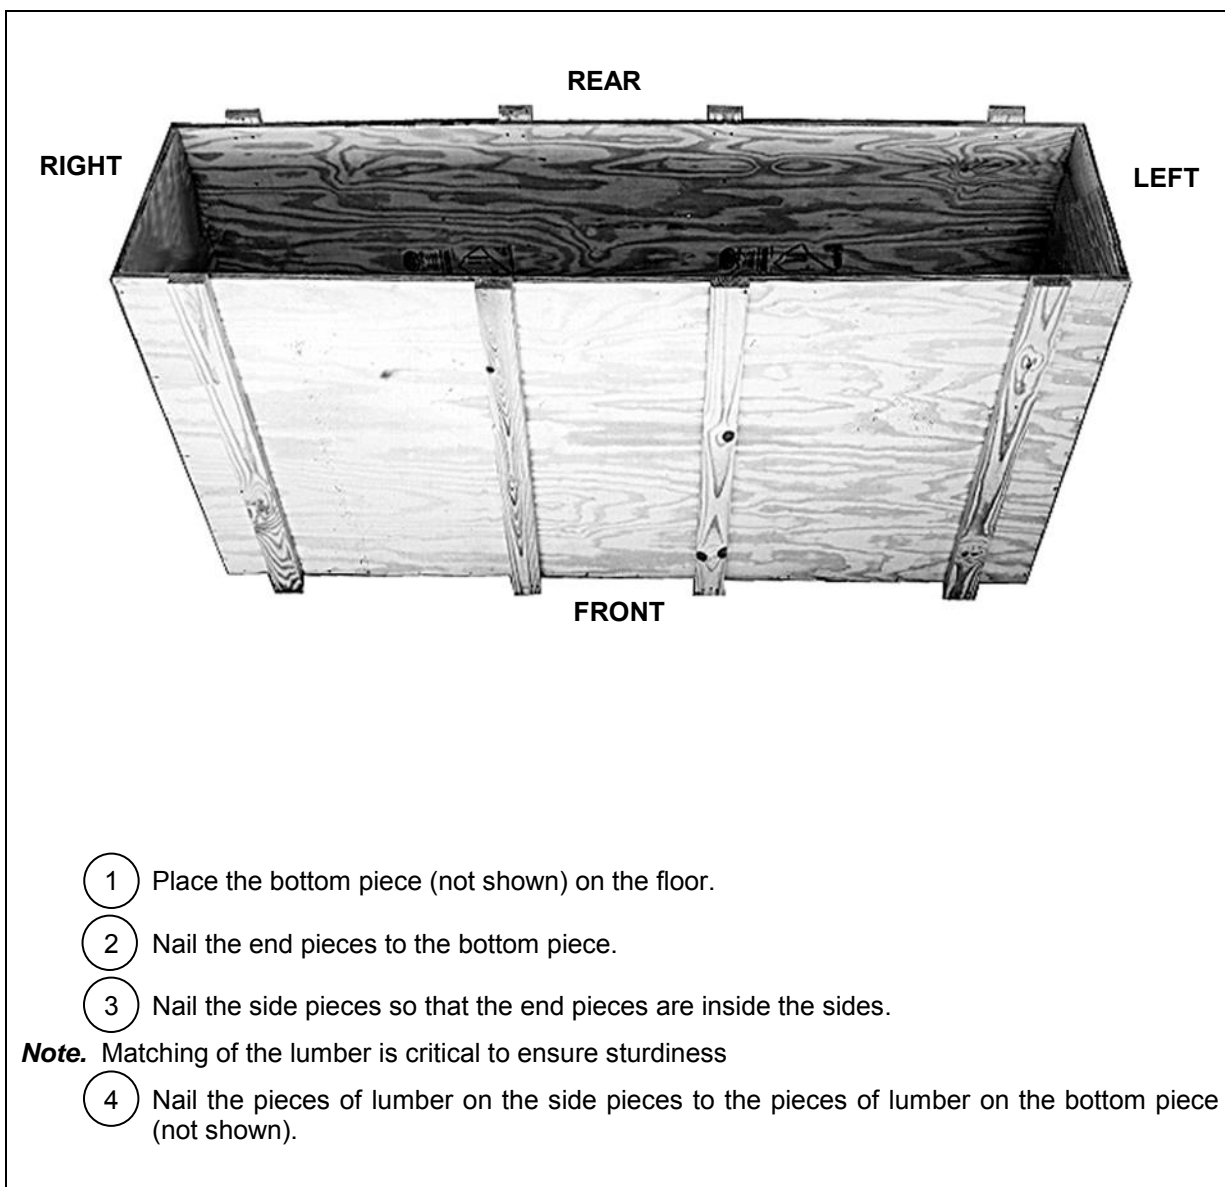

Figure 11-6. Container Assembled
- Assembling Container. Assemble the container for FARE as shown in Figure 11-6.